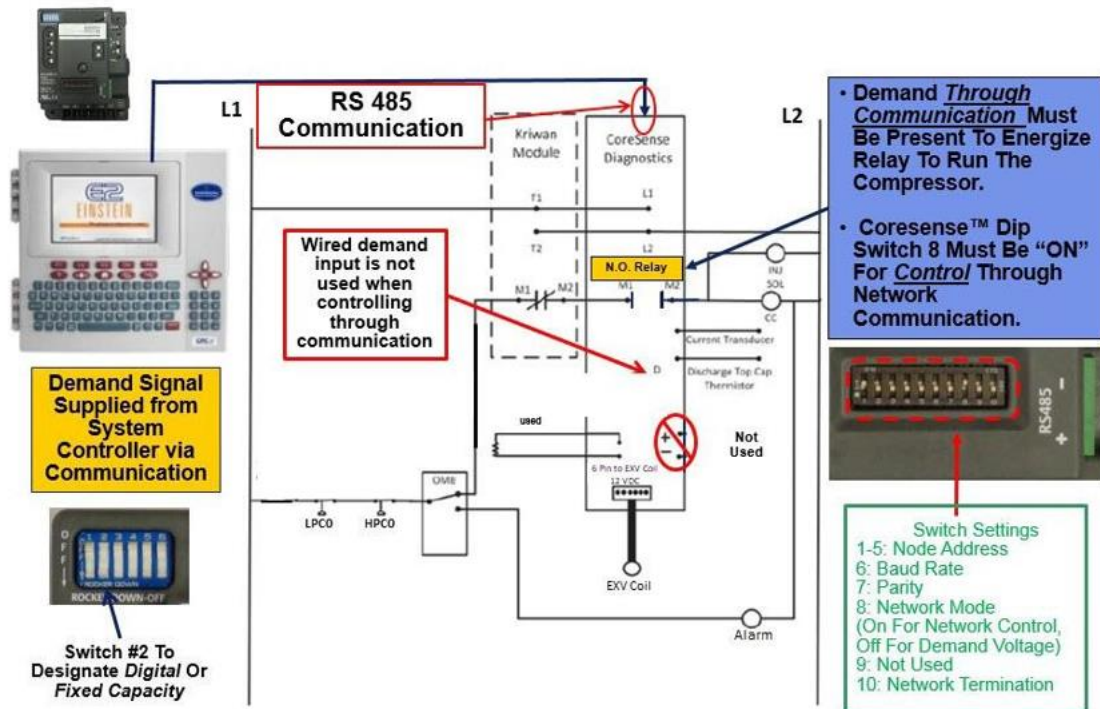

Figure 13 - Compressors Using Control via Communications
3. Digital or Non-Digital compressors using control via communications (Figure 13)
**Figure 13** shows the wiring diagram for a digital or non-digital application using an E2 controller. Demand is supplied via communications and a wire is not required to be run to the “d” terminal. The communications must be hooked up to the E2, and the module brown dip switch #8 must be “on” and the blue dip switch #2 must be “on” for the digital control to work. There is no 1-5V analog input used to control the digital in this arrangement because digital control is provided via the E2. This is the easiest way of wiring for digital control if an E2 is present.